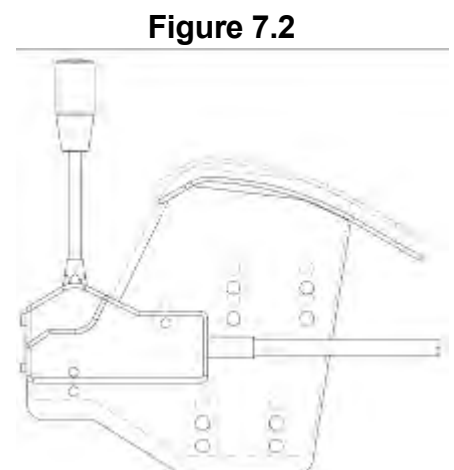

Figure 7.2
- 7.1.4 Adjust arm support to suit operator handling preferences. The lever body can be raised or lowered relative to the armrest, see figure 7.2.